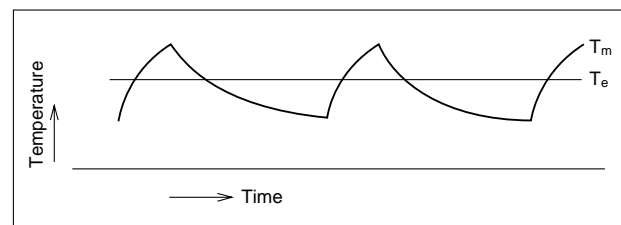

Fig. 7.5 Temperature Due to Intermittent Current
i.e., a continuous current of 300A will produce the average temperature. In practice, however, the instantaneous temperature will fluctuate as shown in Fig. 7.5 and the maximum value (T_m) will be greater than the average (T_e) that would be produced by a continuous current of 300A. The operation of an MCCB thermal element depends on the maximum rather than the average temperature, so it must be selected not to trip at T_m ; in other words, it is necessary to ensure that its hot-start trip delay is at least as great as the interval of current flow in the circuit. The rated current of a “mag-only” MCCB (which does not incorporate a thermal trip function) can be selected based on the thermal equivalent current of the load, allowing a margin of approximately 15% to the calculated value to accommodate supply-voltage fluctuations, equipment tolerance, etc. Thus: